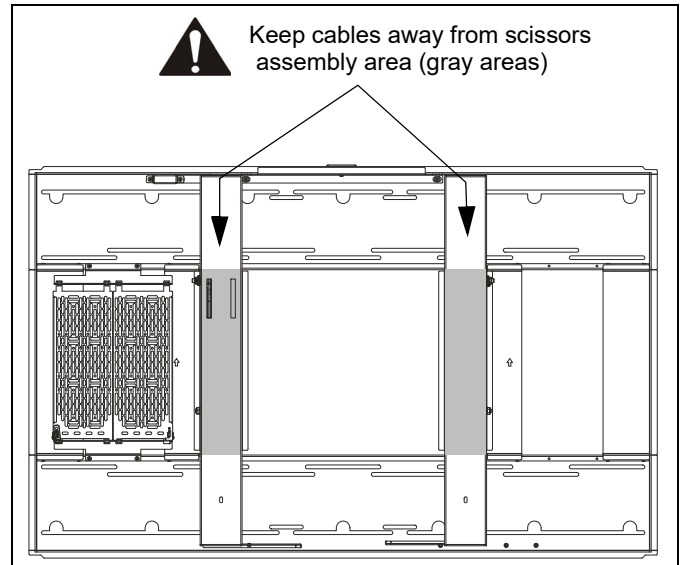

Figure 16
15. Hang outer cover/carrier frame over scissors assembly on rear frame, ensuring that studs on carrier frame line up with holes on scissors assembly. (See Figure 16)
16. Fasten thumb nuts (CD) over studs to connect. (See Figure 16)
1. Cables may be placed in the rear frame areas **outside** of the scissors assembly (gray) areas. (See Figure 16)
**IMPORTANT !** : Do NOT place cables where they may move between the scissors assembly. Damage to cables may occur. (See Figure 16)